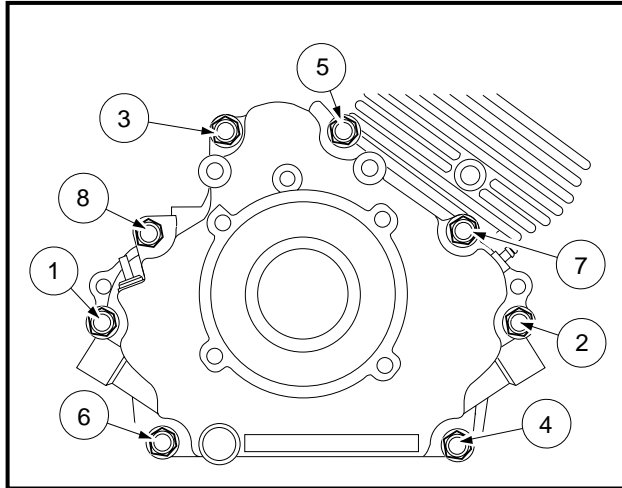

Figure 13-106 Crankcase Cover Installation
3. Install and finger tighten evenly the eight cover mounting bolts (**Figure 13-106, Page 13-48**).